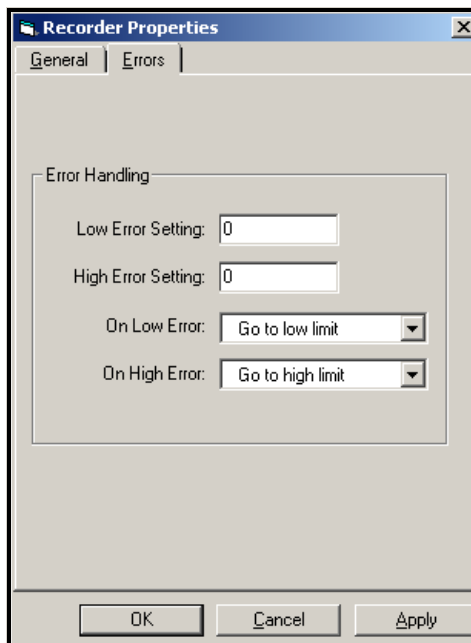

Figure 25: Recorder Errors
6. Next, click on the Errors tab and select the Error Handling schemes for the On Low Error and On High Error cases from the drop-down menus. Then click on Apply (see Figure 25 below).